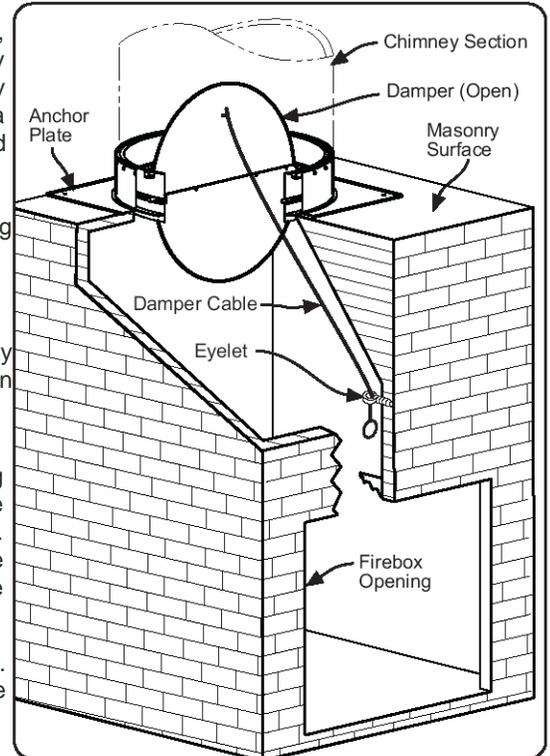

Figure 1.
1. Using the Anchor Plate with Damper as template, centered over the outlet opening, drill and anchor four 1/4" diameter bolts 2" long securely into the top of the masonry fireplace. Apply a bed of mortar approximately 3/4" in depth and 3" in width completely around the fireplace opening. Make sure the threaded ends of the bolts protrude a minimum of 1" above the bed of mortar. Ensure damper is free of obstructions and is permitted to close and open freely. See Figure 1. **NOTE:** Reference Selkirk Chimney Systems (MCS) instruction sheet S-4 when installing an APD with model UT/ST/GT and the UTL/GTL (main) installation instructions when installing a large diameter (16" and larger diameter) APD. While the mortar is still damp, place and level the APD over the extended studs. Secure, using a washer and nut for each bolt. Check the plate for level and allow mortar to set.
2. Using Eyelet, route Damper Cable to desired location in firebox. Mount Eyelet by pre-drilling a 3/16" pilot hole, then screw Eyelet into the hole. Once mounted in place, thread Damper Cable through Eyelet opening. See Figures 1 & 2.